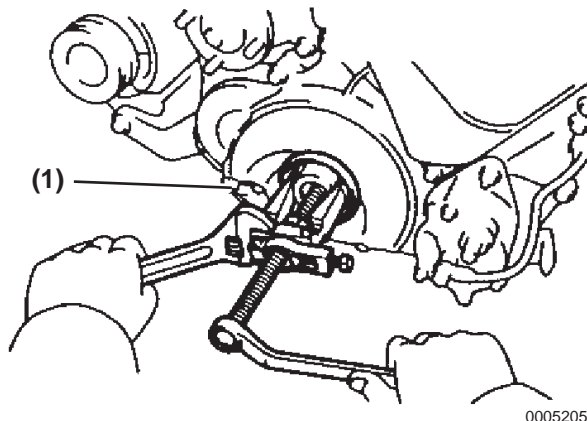

Figure 5-205
1. Remove the oil seal using a suitable tool (**Figure 5-205, (1)**).